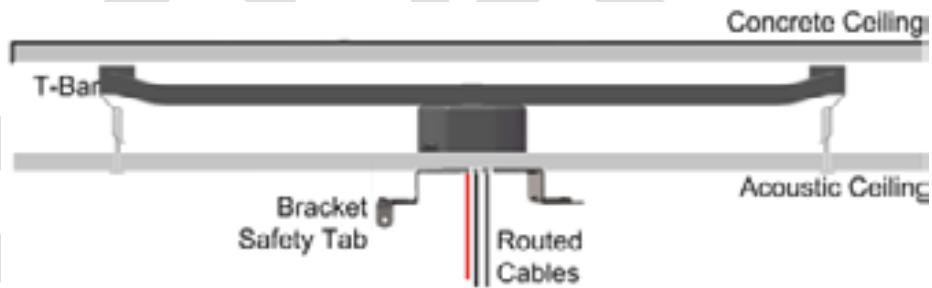

Figure 5-68. Routed Cables and Mounting Bracket Installed on T-Bar (Below Ceiling)
2. Install the T-Bar on the ceiling above the acoustic tiles (according to manufacturers' instructions) and route the previously located connections cables through the center of the RAU Mounting Bracket. See Figure 5-68.